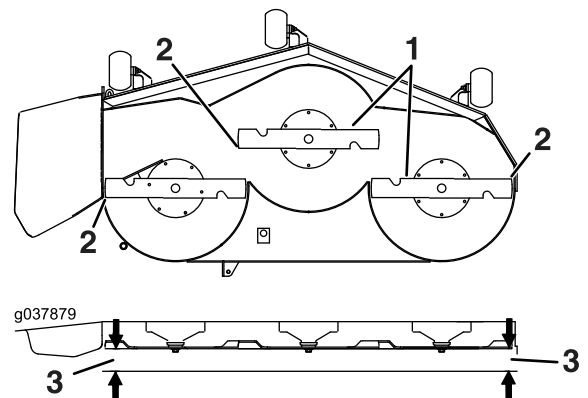

Figure 82
6. Measure between the blade tip and the flat surface (Figure 82). If both measurements are not within 5 mm (3/16 inch), adjust the leveling; continue with this procedure.
14. Carefully rotate the blades side to side (Figure 82).